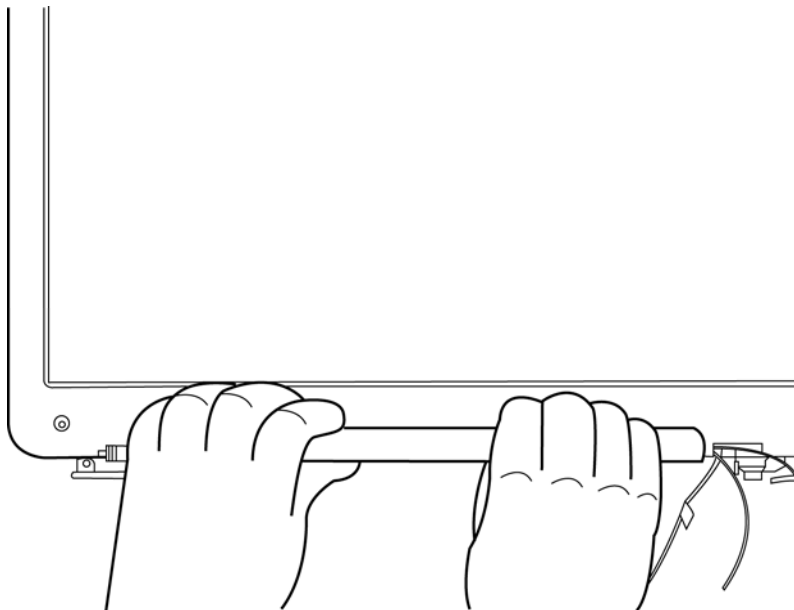

Figure 4.35 Pressing the bezel hinge wall
3. Press the bezel hinge wall against the cover hinge wall as shown in Figure 4.35.